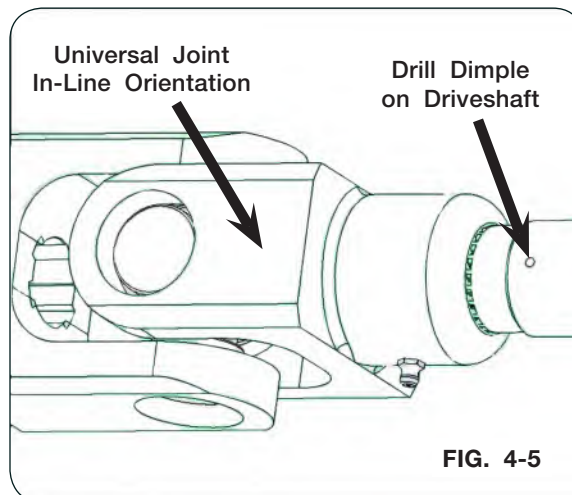

FIG. 4-5
12. With bearing mounting hardware loosely tightened, drill a setscrew dimple in the driveshaft by going through the bearing setscrew threaded hole to dimple the driveshaft being careful to not damage threads. Drill the dimple to a depth that setscrews are flush with the bearing prior to applying thread locker and installing setscrews. (FIG. 4-5)
13. For alignment of the yoke, the orientation of the universal joint at the gearbox must be in line with the driveshaft drill dimple when the driveline assembly is attached. (FIG. 4-5, 4-6, and 4-7)